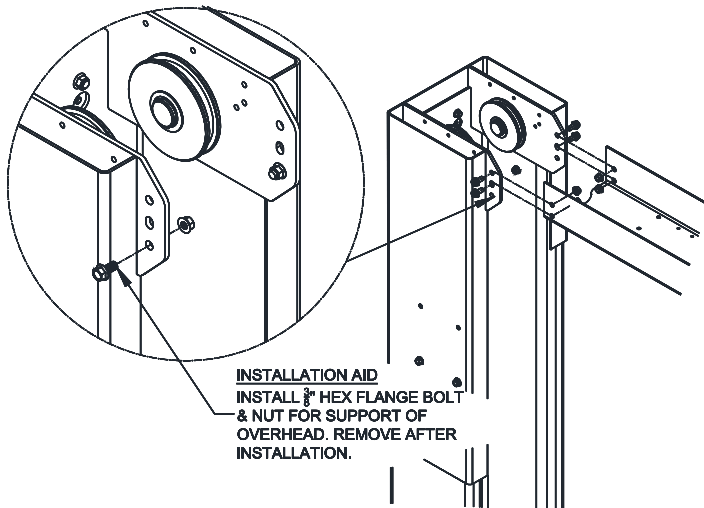

Fig. 6 – Overhead Assembly
- 16) Before raising overhead into position install 4 each (2 per column) hex flange bolts and nuts in bottom hole of column extension (see Fig. 6 Installation Aid) for temporary support of overhead. Lift overhead assembly up into position and install with 8 each (4 per column) 3/8"-16 x 3/4" lg. hex flange bolts and hex flange nuts per side as shown in Fig. 6.